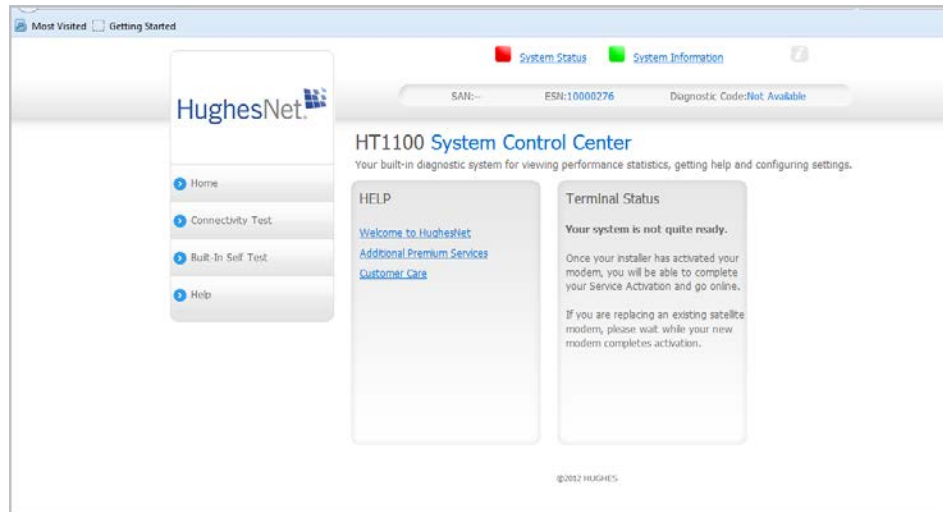

Figure 11: System Control Center home page
2. The System Control Center home page appears as shown in Figure 11.